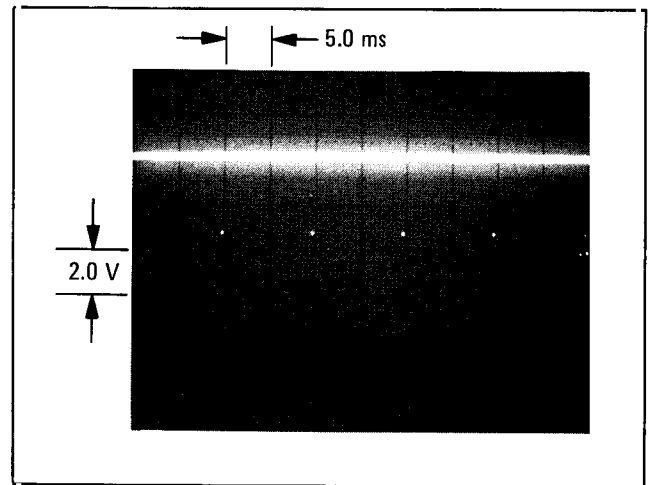

Figure 7. Oscilloscope Display of ÷N Counter Output at U14 Pin 3 (with dc coupling, internal triggering and a persistence display)
6. The 100 or 250 Hz output of U20 clocks the Terminal Count Flip-Flop U31B to provide a time interval so the output of Counter No. 2 is gated to the ÷N line. Refer to Figure 7 for a display of the ÷N Terminal Count.